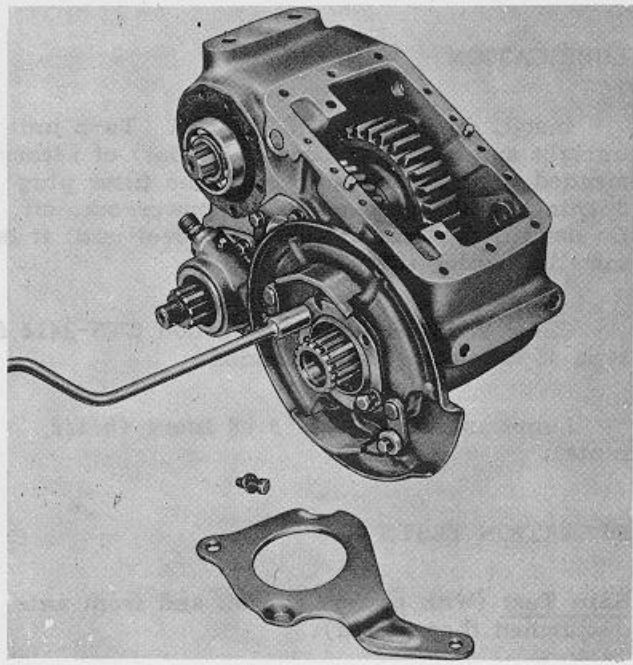

Fig. 38.
29. Position a new gasket and then mount backing plate, deflector and stamped washer. Insert capscrews and star washers and tighten to specified torque (Fig. 38).